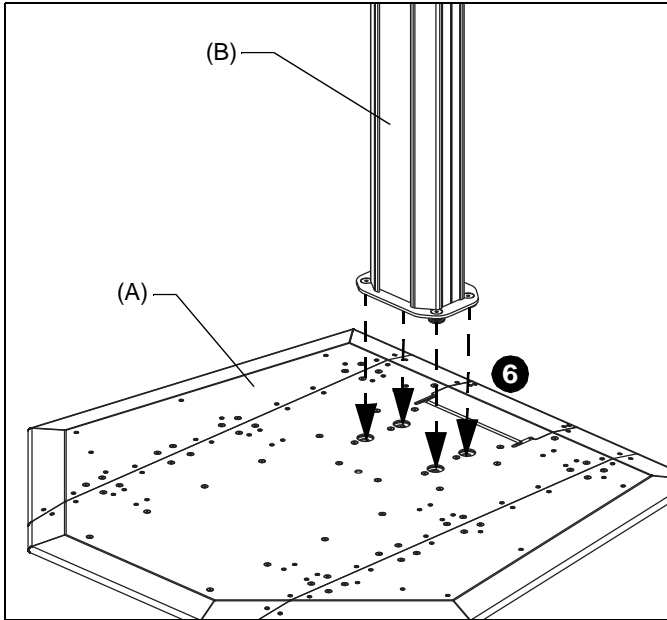

Figure 5
6. With faceplate facing front of base, line up column with mounting holes in base and lower into place. (See Figure 5)